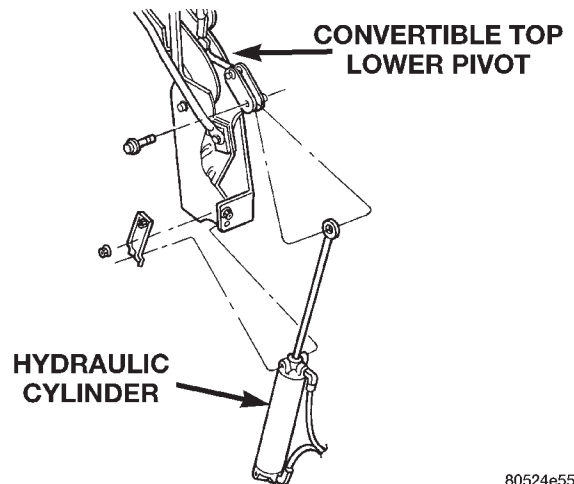

Fig. 6 Hydraulic Cylinder
- (1) Disconnect battery negative cable.
- (2) Remove rear seat cushion and rear seat back.
- (3) Remove quarter trim panel.
- (4) Remove cylinder mounting bracket and nut (Fig. 6).
- (5) Remove pivot bolt holding cylinder shaft to top linkage.
- (6) Disconnect hydraulic lines from the cylinder.
- (7) Remove cylinder from vehicle.